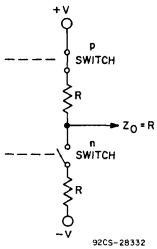

Fig. 3 — Constant output impedance of a buffered gate.
–Buffered—Fig. 3 depicts the buffered output stage and shows the MOS transistor as switched on with a channel resistance R; R is the same value for the n-switch closed or the p-switch closed.
as buffered (B) types or unbuffered (UB) types by virtue of the squared or rounded transfer characteristics of Figs. 3 and 4, respectively. Even though both types have a single NMOS and single PMOS output transistor, the rounded transfer characteristic of the unbuffered inverters makes them UB types by virtue of:
Output Impedance—Refer to Figs. 3 and 4 and accompanying descriptions of the constant output impedance of buffered gates and the variable output impedance of unbuffered gates. Note that both buffered and unbuffered RCA 2-, 3- and 4-input gates are designed to meet the same maximum output impedance; output current ratings (I_{OL} and I_{OH}) have the same minimum limit on RCA data sheets.